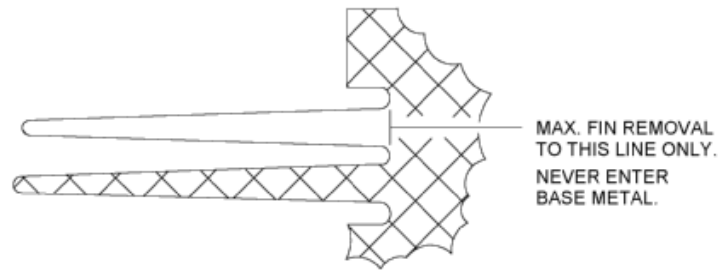

Figure 72-00-13.2 • Cooling Fin Removal Maximum
- (2) Grind valve seats with suitable grinding equipment to a 30° angle on intake valve seats and a 45° angle on exhaust valve seats. Grind valve seats to 16 RA max. (ref) concentric to guide bore within 0.002 in.
- (a) On intake valve seats, use a 15° grinding wheel to grind the top surfaces of the valve seat to produce the outer face diameter. Bring the face of the intake valve seats to the specified width (Dimension "B") by narrowing the throat with a 75° wheel. Refer to Figure 72-00-13.5.